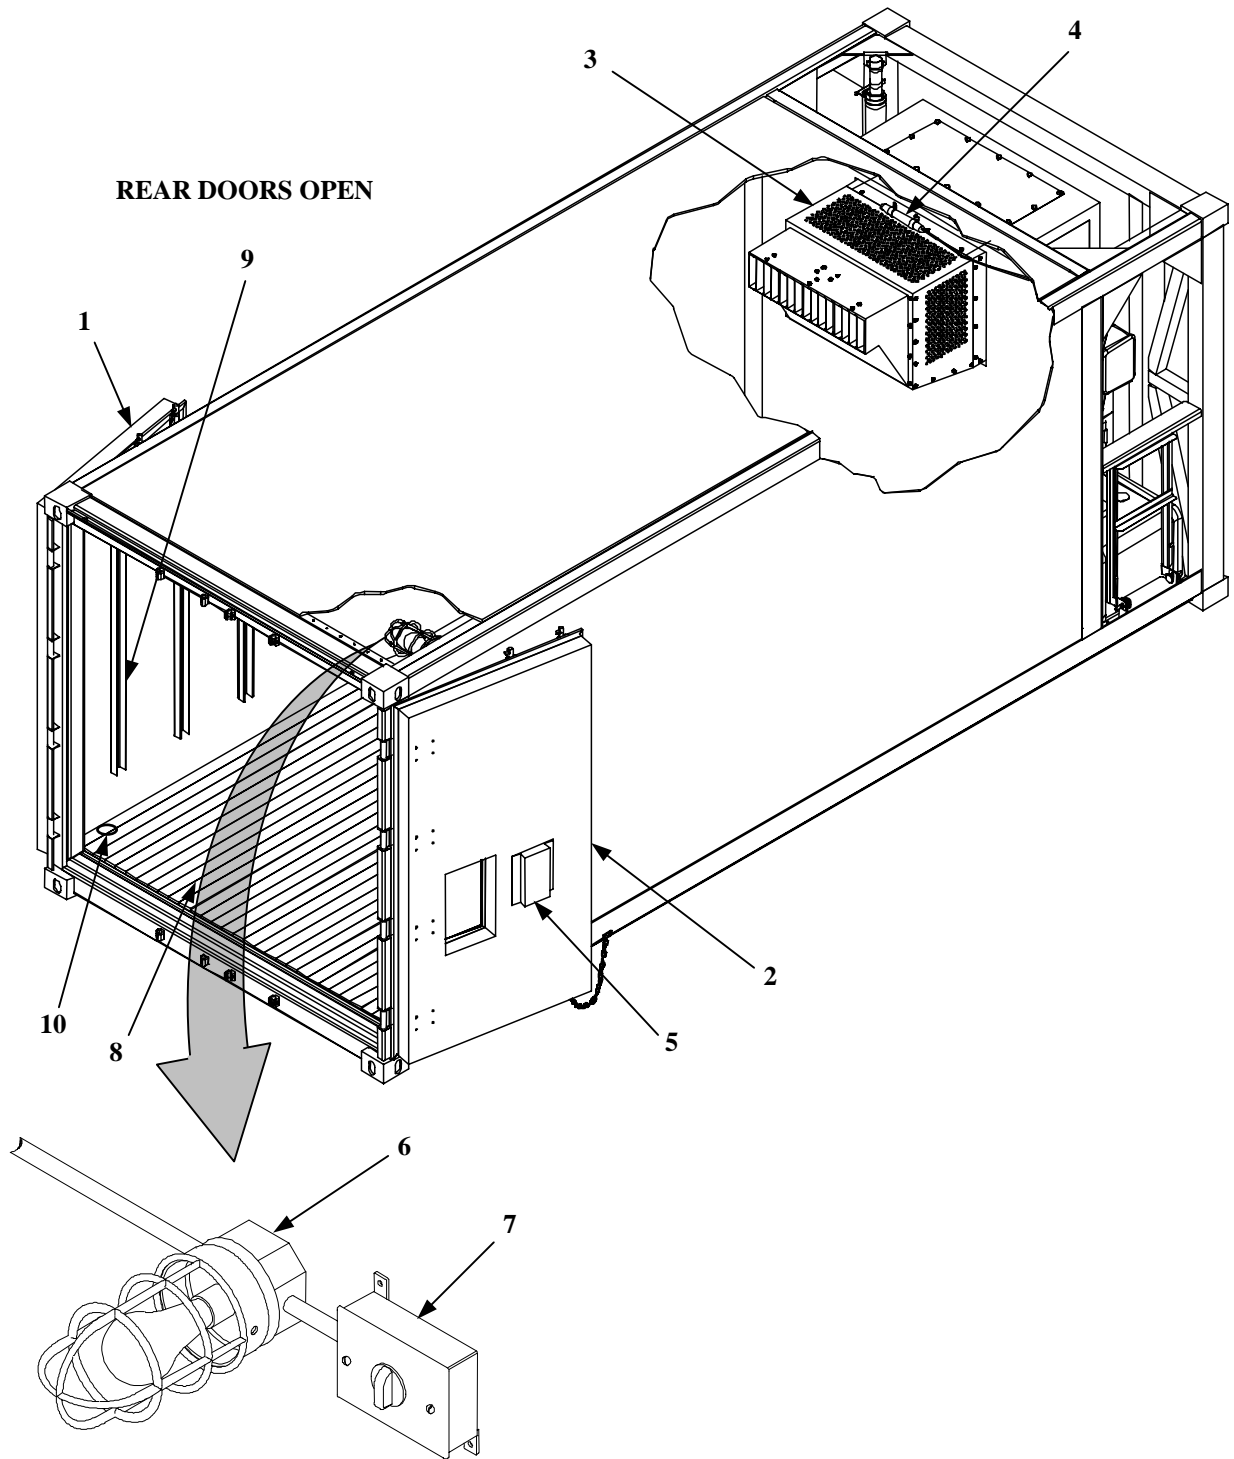

Figure 3. Refrigerated Container Major Components
LOCATION AND DESCRIPTION OF MAJOR COMPONENTS – Continued.**REFRIGERATED CONTAINER SYSTEM (Figure 3) – Continued.****LEFT DOOR (1).**